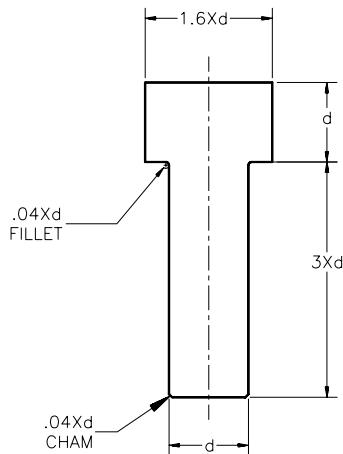
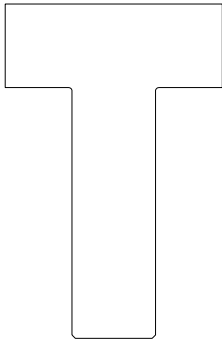
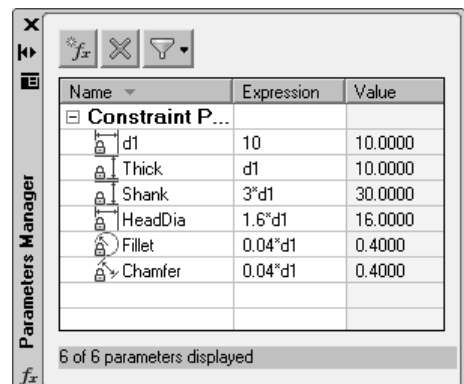

Figure 16-64 Sketch for Example 5
Figure 16-65 The closed sketch of the bolt
Figure 16-69 The **Parameters Manager**
In this example, you will create the sketch of a bolt, as shown in Figure 16-64. Then, you will convert it to block and apply constraints such that you can create bolts of diameter 6, 10, 12.5, 15, 18, 24, and 25.
The bolt shown in Figure 16-64 does not have any standard dimension or annotation. It is given for the purpose of example. However, you can follow the procedure given next to design a standard bolt.
1. Start a new file with the *acad.dwt* template in the **2D Drafting & Annotation** workspace. Draw the sketch assuming that the value of $d=10$ and satisfying other relations shown in Figure 16-64. Make sure that the endpoints are snapped so that it becomes a closed sketch, as shown in Figure 16-65.
14. Apply a new expression to each renamed constraint, as shown in Figure 16-64. The **Parameters Manager** palette after renaming the constraints and applying appropriate expressions is shown in Figure 16-69.